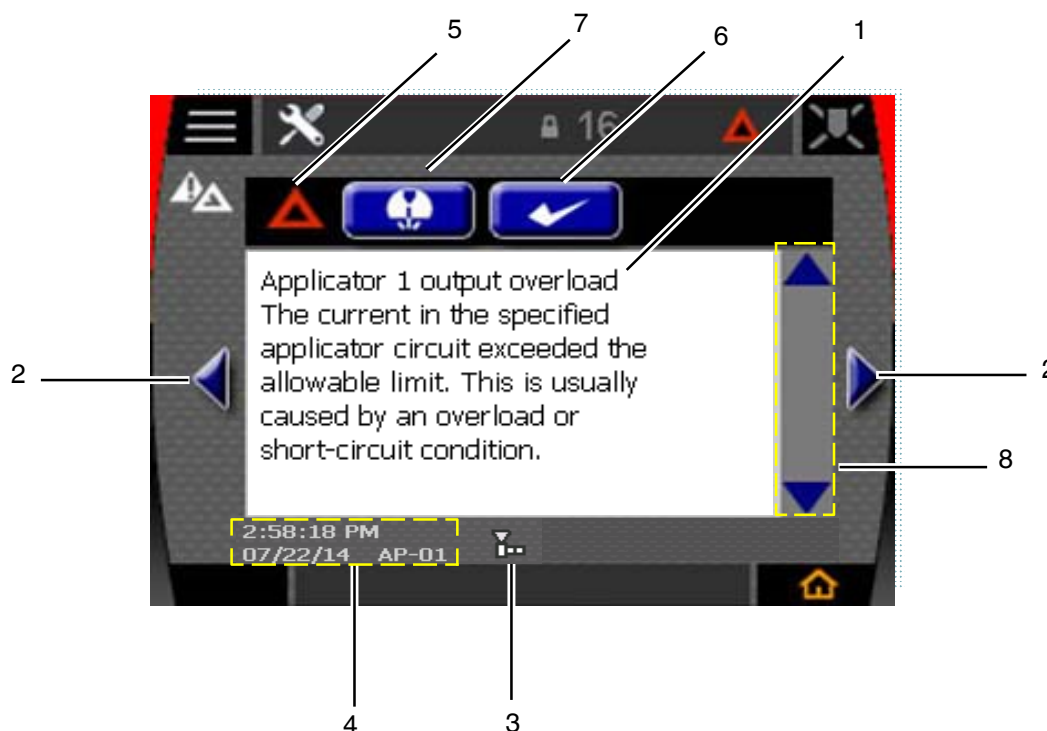

Figure 6-2: Message Log components
NOTE: When necessary, use the scroll bar (item 8 in Figure 6-2:) to see additional text. You can also slide your finger up and down in the message box.
The Message Scroll Indicator (item 3 in Figure 6-2:) shows the number of active and inactive messages and your current position in the log. This indicator contains a maximum of 25 messages.
The Message Status Indicator (item 5 in Figure 6-2:) provides the type and status of each message:
- To move to the next or previous message, use the left and right message navigation buttons (item 2 in Figure 6-2:).
- Each message includes a time and date stamp of the message along with a message code (item 4 in Figure 6-2:).
Tap the button (item 6 in Figure 6-2:) on the Message Log screen to acknowledge the message. After the alert or fault has been acknowledged, the background stops flashing. Depending on the type of fault or alert, holding the acknowledge button may also clear the fault or alert condition, sending it to the inactive section of the log.
See item 7 in Figure 6-2: for the location of the shortcut button. Depending on the type of events that occur, one of the following button appears on Message Log screen: